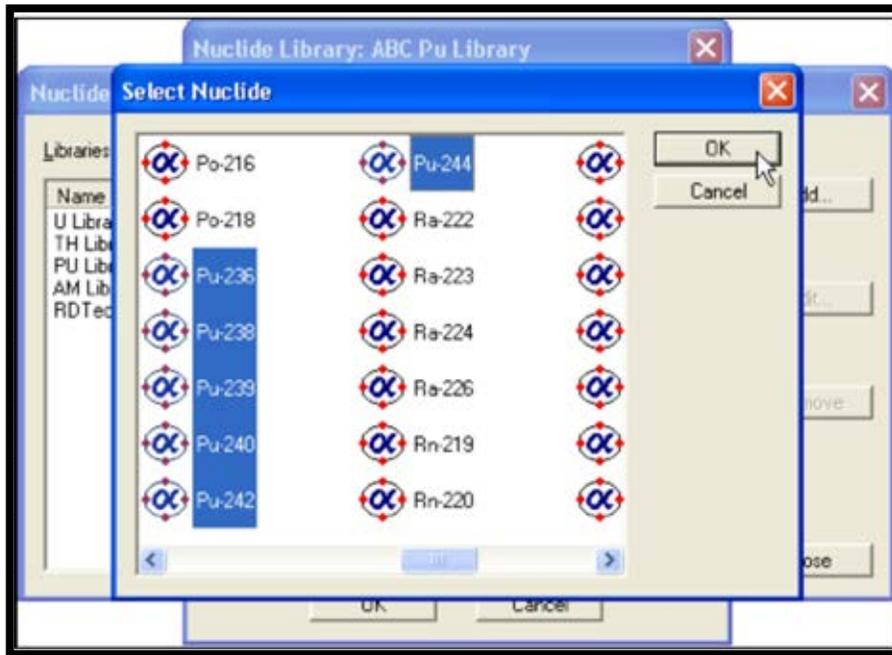
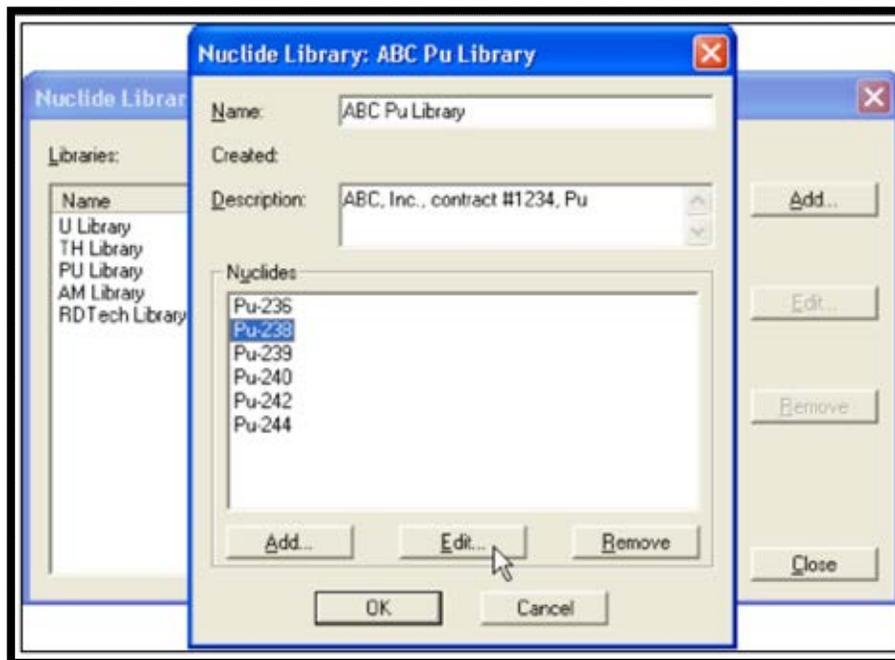

Figure 57. Add Nuclides from Master List
Figure 58. Edit the Peak Energies for the Selected Nuclide
- 3) To add one or more nuclides to the library, click **Add...** This will open the Master Nuclide Library's contents in the Select Nuclide dialog (Figure 57). Select the desired nuclides then click **OK**. This will copy all highlighted nuclides into the new library and close the master list dialog (Figure 58).